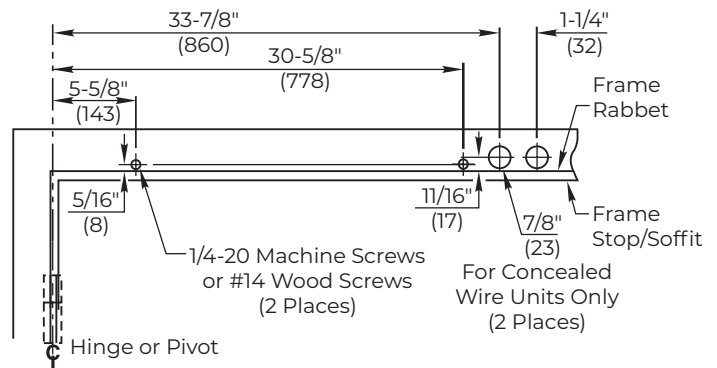

Figure 3 Left Hand Shown
3. Using the template (available for download from www.nortonrixson.com), prepare mounting holes for screws. (Figure 3)
- c. Drill/tap two (2) 1/4-20 holes for steel frame or two (2) #14 holes for wood frame at marked locations.
- c. Drill two (2) 7/8" diameter holes in frame at marked locations.